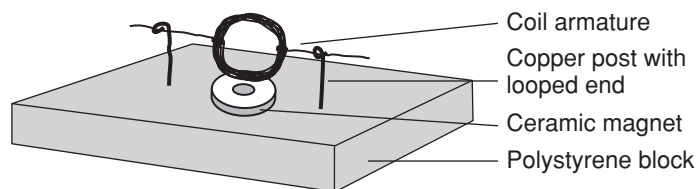

Figure 1.
8. Use needle-nose pliers to make a small, complete loop at one end of each piece of copper wire. If necessary, use the needle-nose pliers to straighten the copper wires as well (see Figure 1).
11. Place the coil armature axles into the loops in the copper wire posts. The axle of the coil armature should be parallel to the polystyrene foam surface and the armature should be balanced and spin freely (see Figure 1).